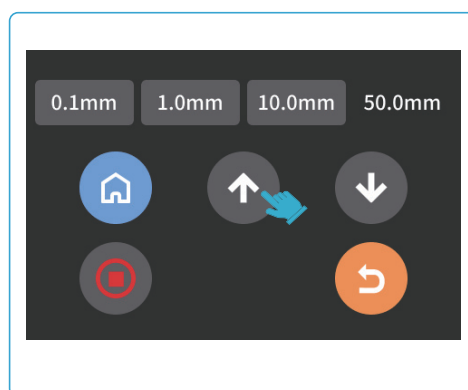

Figure 11
5. Go back to the **Manual** page and tap the Z-axis **up** button to raise the Z axis by about 100 mm (see Figure 11). Mind the position of the probe when moving the build plate: press the probe down by hand before raising the plate, so that the device is not damaged.